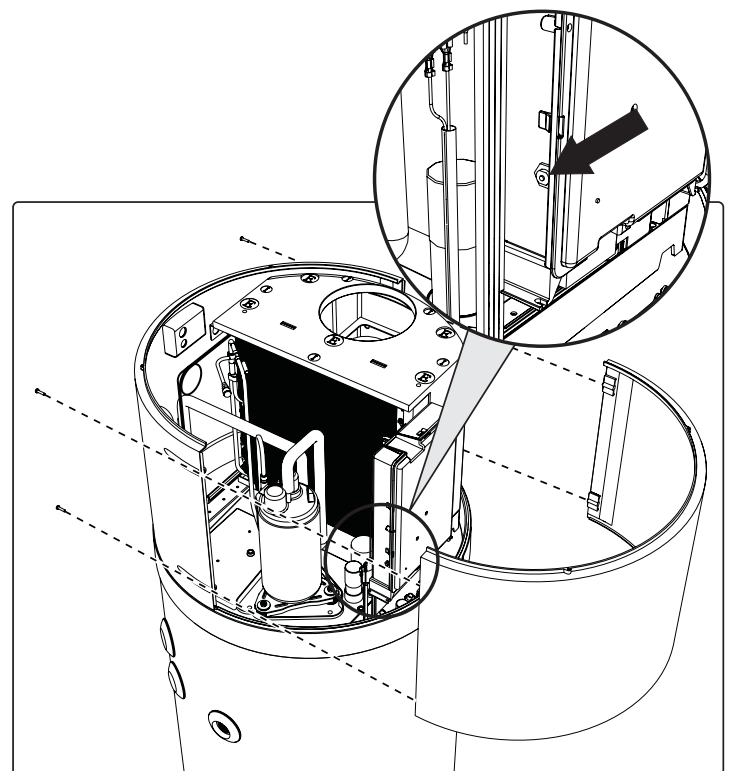

fig. 42 - Front panel removal
- Remove the front panel and manually reset the tripped safety thermostat (fig. 42). In case of intervention, the central pin of